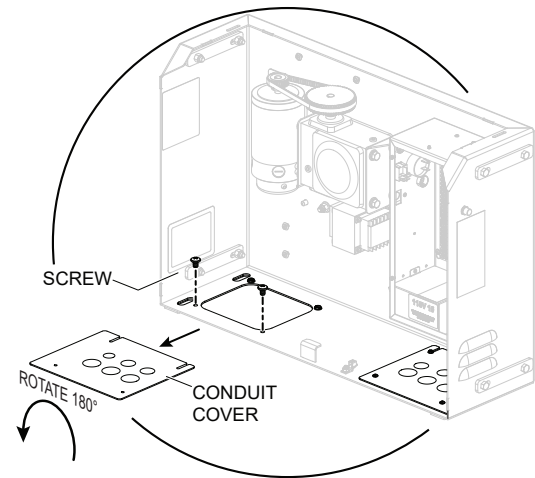

Figure 4. Conduit Cover 180° Rotation
5. Using a Philips Head screwdriver, remove conduit cover panel (2). Rotate conduit cover panel (2) 180° and reinstall for rodent protection. See Figure 4.